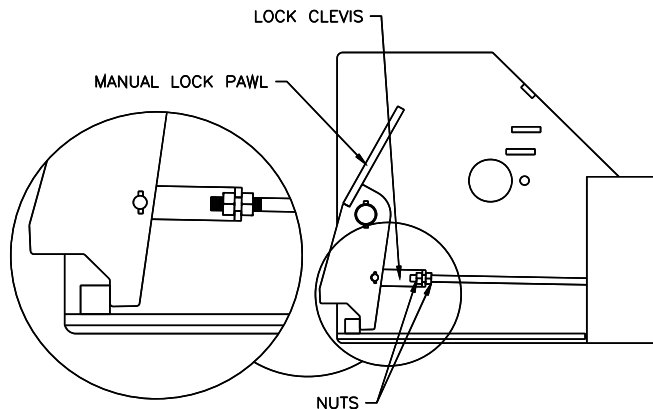

Fig 4 – Lock Clevis
- 4) Check the lock clevis to ensure it is secure and that the lock pawl is in the correct position as shown in **Fig 4**. Adjust the clevis if necessary.
- 17) With runways and cross beams loose, attach the mechanical lock bar to both cross beams with the supplied hardware. Tighten once cross beams are attached to the runways. **Verify the mechanical lock release moves freely and lock pawl return spring doesn't interfere with Lock Ladder. (See Fig 4)**